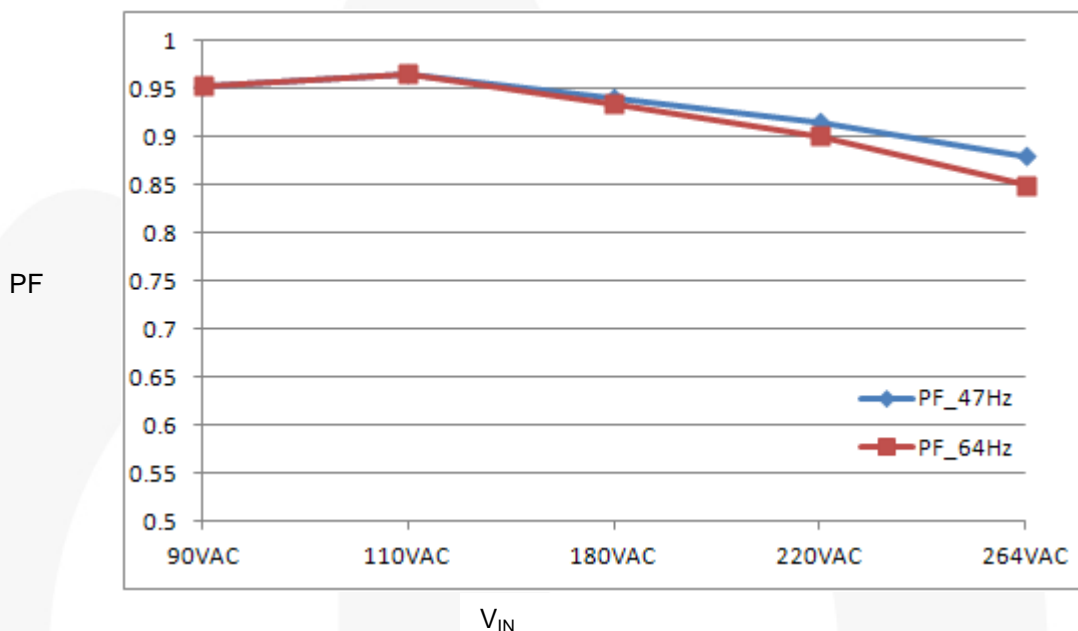

Figure 29. Power Factor
Figure 29 shows the system Power Factor (PF) performance for the entire input voltage range (90V_{AC} to 264V_{AC}) at different input frequency conditions (47Hz, 64Hz). The PF changes slightly according to the input frequency.